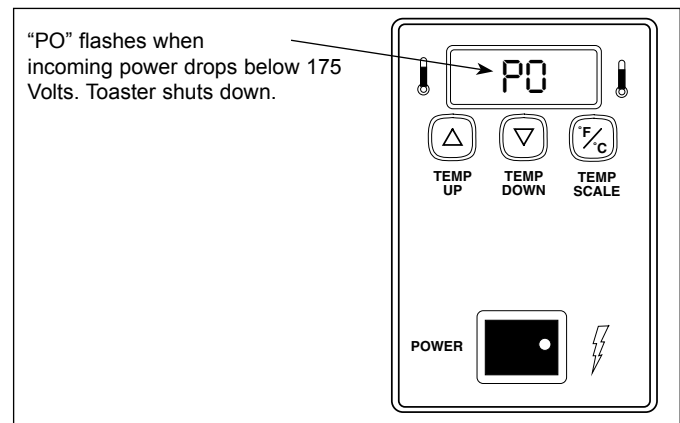

Figure 9. "PO" Fault Message
- If incoming power drops below 175 Volts, the toaster will shut down and the display will flash “PO” (Figure 9).